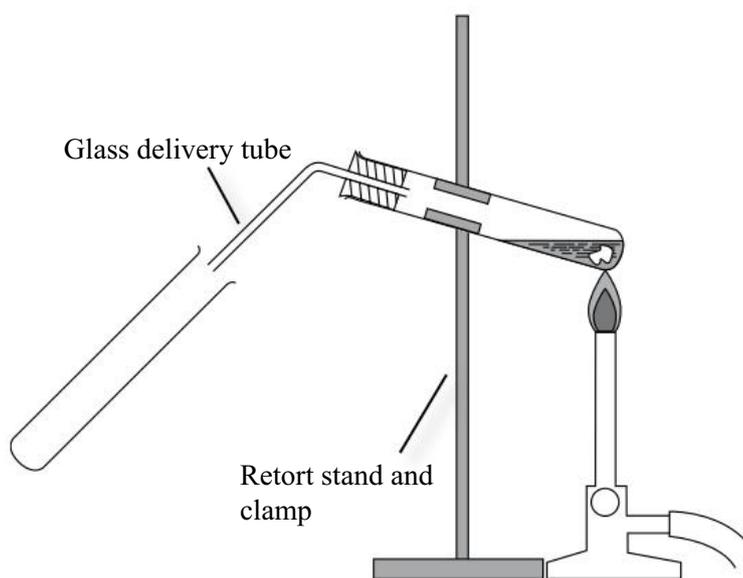

Figure 3.1
2. Place about 10 mL of $0.1 \text{ mol L}^{-1} \text{ NaCl}$ into a large test tube fitted with a delivery tube as shown in Figure 3.1. Clamp the test tube to a retort stand.